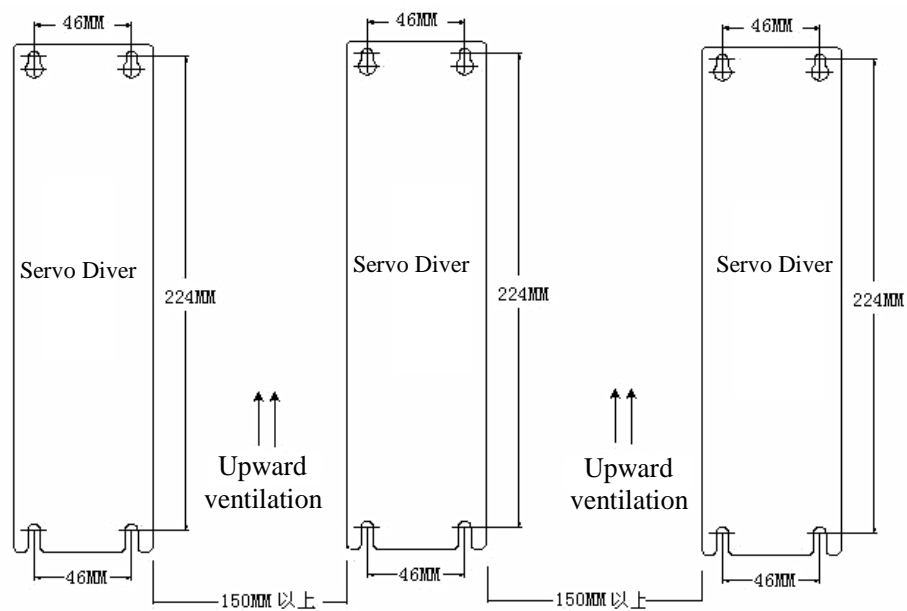

Figure 1.3 Direction of Installation
- I. Pay attention to the direction of installation (See Figure 1.3).
- II. Pay attention to the spacing of installation (See Figure 1.3).
- III. Four (4) M5 bolts can fix the servo driver with a spring washer added.